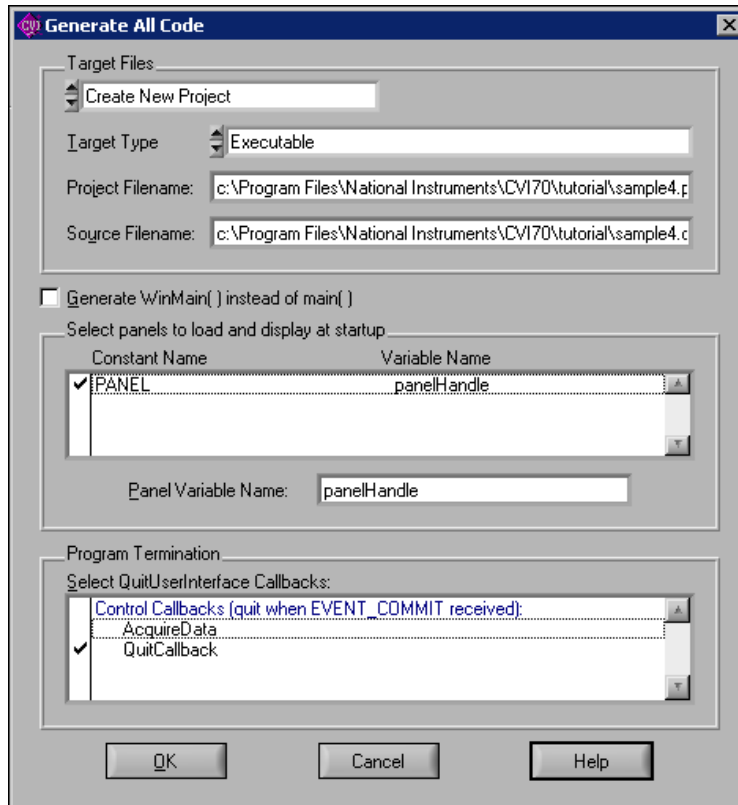

Figure 5-4. Generate All Code Dialog Box
6. The lower half of the Generate All Code dialog box shows a list of callback functions in the `.uir` file. Select a function from this list that causes the program to terminate execution. In this case, select the **QuitCallback** function in the dialog box so that a checkmark appears next to it. Verify that the Generate All Code dialog box matches the one shown in Figure 5-4.